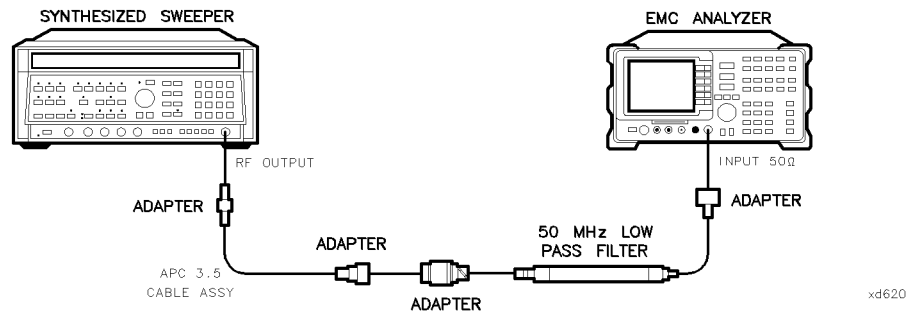

Figure 2-52. Second Harmonic Distortion Test Setup, HP 8596EM
2. Connect the equipment as shown in Figure 2-52.